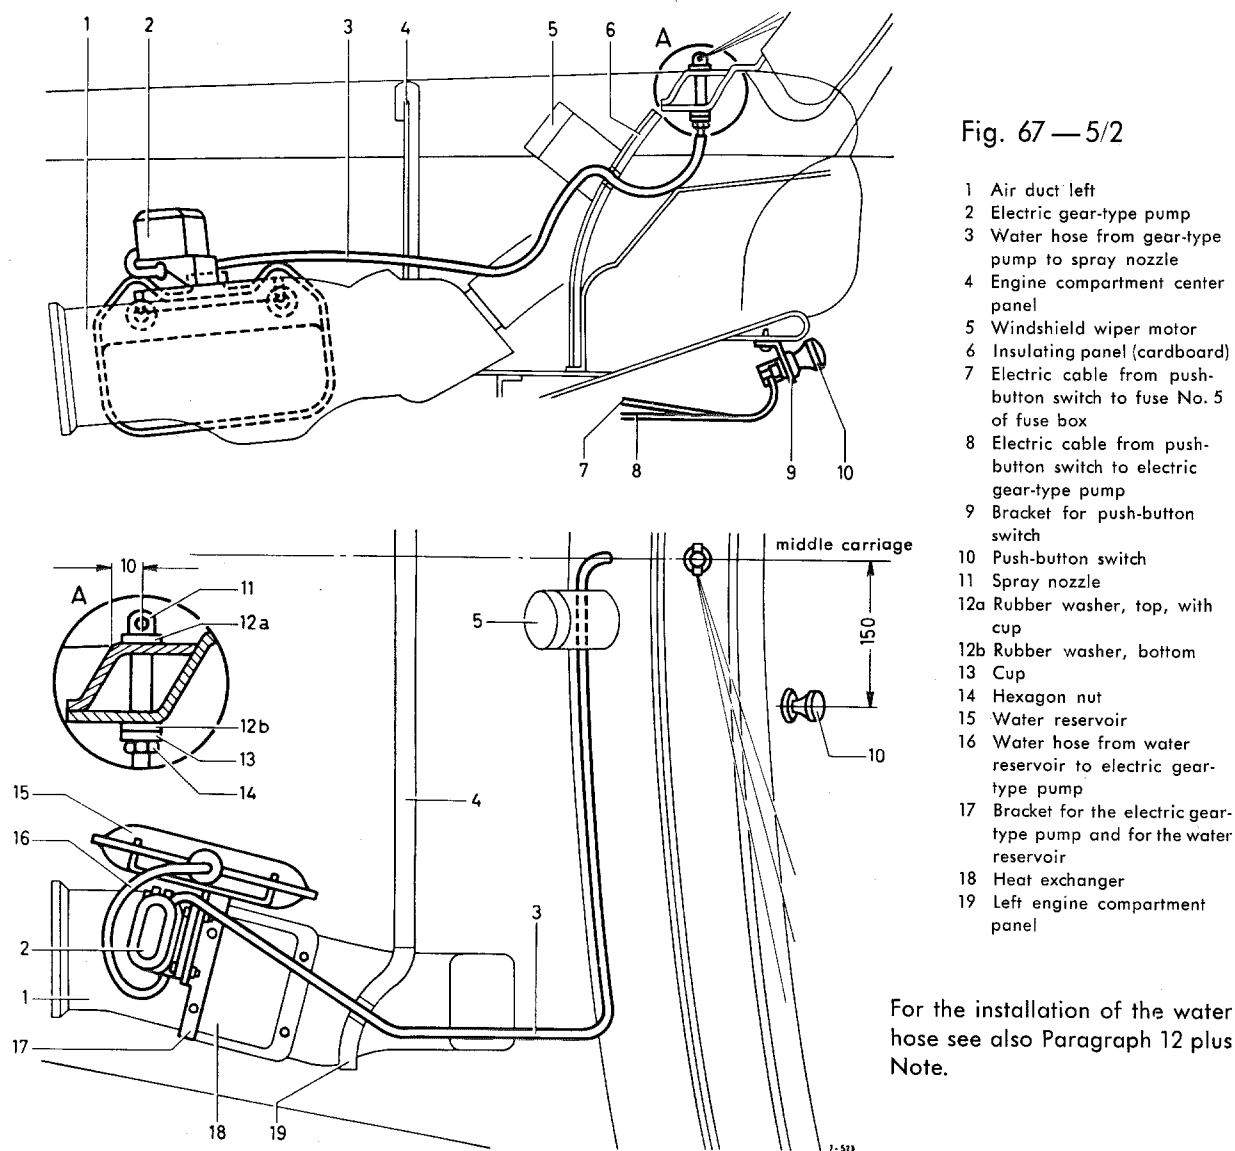

Fig. 67 — 5/2
3. Hold the bracket (9) for the push-pull switch (10) against the reinforcement plate under the instrument panel approx. 150 mm to the left from the car center line (see Fig. 67 — 5/2), mark the 2 holes for the cheese-head tapping screws and drill the holes to 3.4 mm \varnothing .
4. Screw the bracket (4) to the reinforcement plate by means of the 2 cheese-head tapping screws Z 4.2 \times 16 DIN 7971 (see Fig. 67 — 5/2).
5. Install the bracket (17) at the left air duct (1); to do this, unscrew the 2 front fixing screws for the heat exchanger (18), fit the bracket (17), and screw the fixing screws in again (see Fig. 67 — 5/2).
6. Screw the electric gear-type pump (2) to the bracket (17) by means of the 2 cheese-head screws AM 6 \times 20 DIN 84.
7. Connect the two black electric cables 750 mm and 1400 mm long to the push-pull switch (10). Place the push-pull switch (10) in the bracket (9) and fix it by tightening the escutcheon by means of Hook Wrench 136 589 02 05.
9. Pull an insulating sleeve B 6 \times 7.2 DIN 40 621 over each of the two electric cables and connect the short cable (7) to fuse No. 5 of the fuse box and the long cable (8) to the electric gear-type pump (2) (to the positive terminal).
10. Connect the brown cable (ground) to the electric gear-type pump (2) (negative terminal), pull an insulating sleeve B 4 \times 5 DIN 40 621 over the cable and connect the other end of the cable to ground at a suitable point (e. g. cable connector, blower, or windshield wiper motor).
11. Hang the water reservoir (15) in the bracket (17).
12. Drill a 12 mm ϕ hole for the water hose (3) in the **right** cowl insulating panel (6) (card-board) to the right of the windshield wiper motor in the car center line and clean the bore.
- Note:** An alternative method to that shown in Fig. 67 — 5/2, is to install the water hose through the center cowl insulating panel, i. e. to the left of the windshield wiper motor. To do this, a 12 mm ϕ hole should be stamped in the center cowl insulating panel at a distance of approx. 180 mm from the windshield wiper motor center and approx. 50 mm from the lower edge.
13. Push the water hose (3) through the hole in the right or center cowl insulating panel (6). Install the water hose (3) by pushing it through the left engine compartment panel (19) at the cut-out for the regulating valve cable and connect it to the electric gear-type pump (2).
14. Connect the short water hose (16) to the electric gear-type pump (2) and to the water reservoir (15).